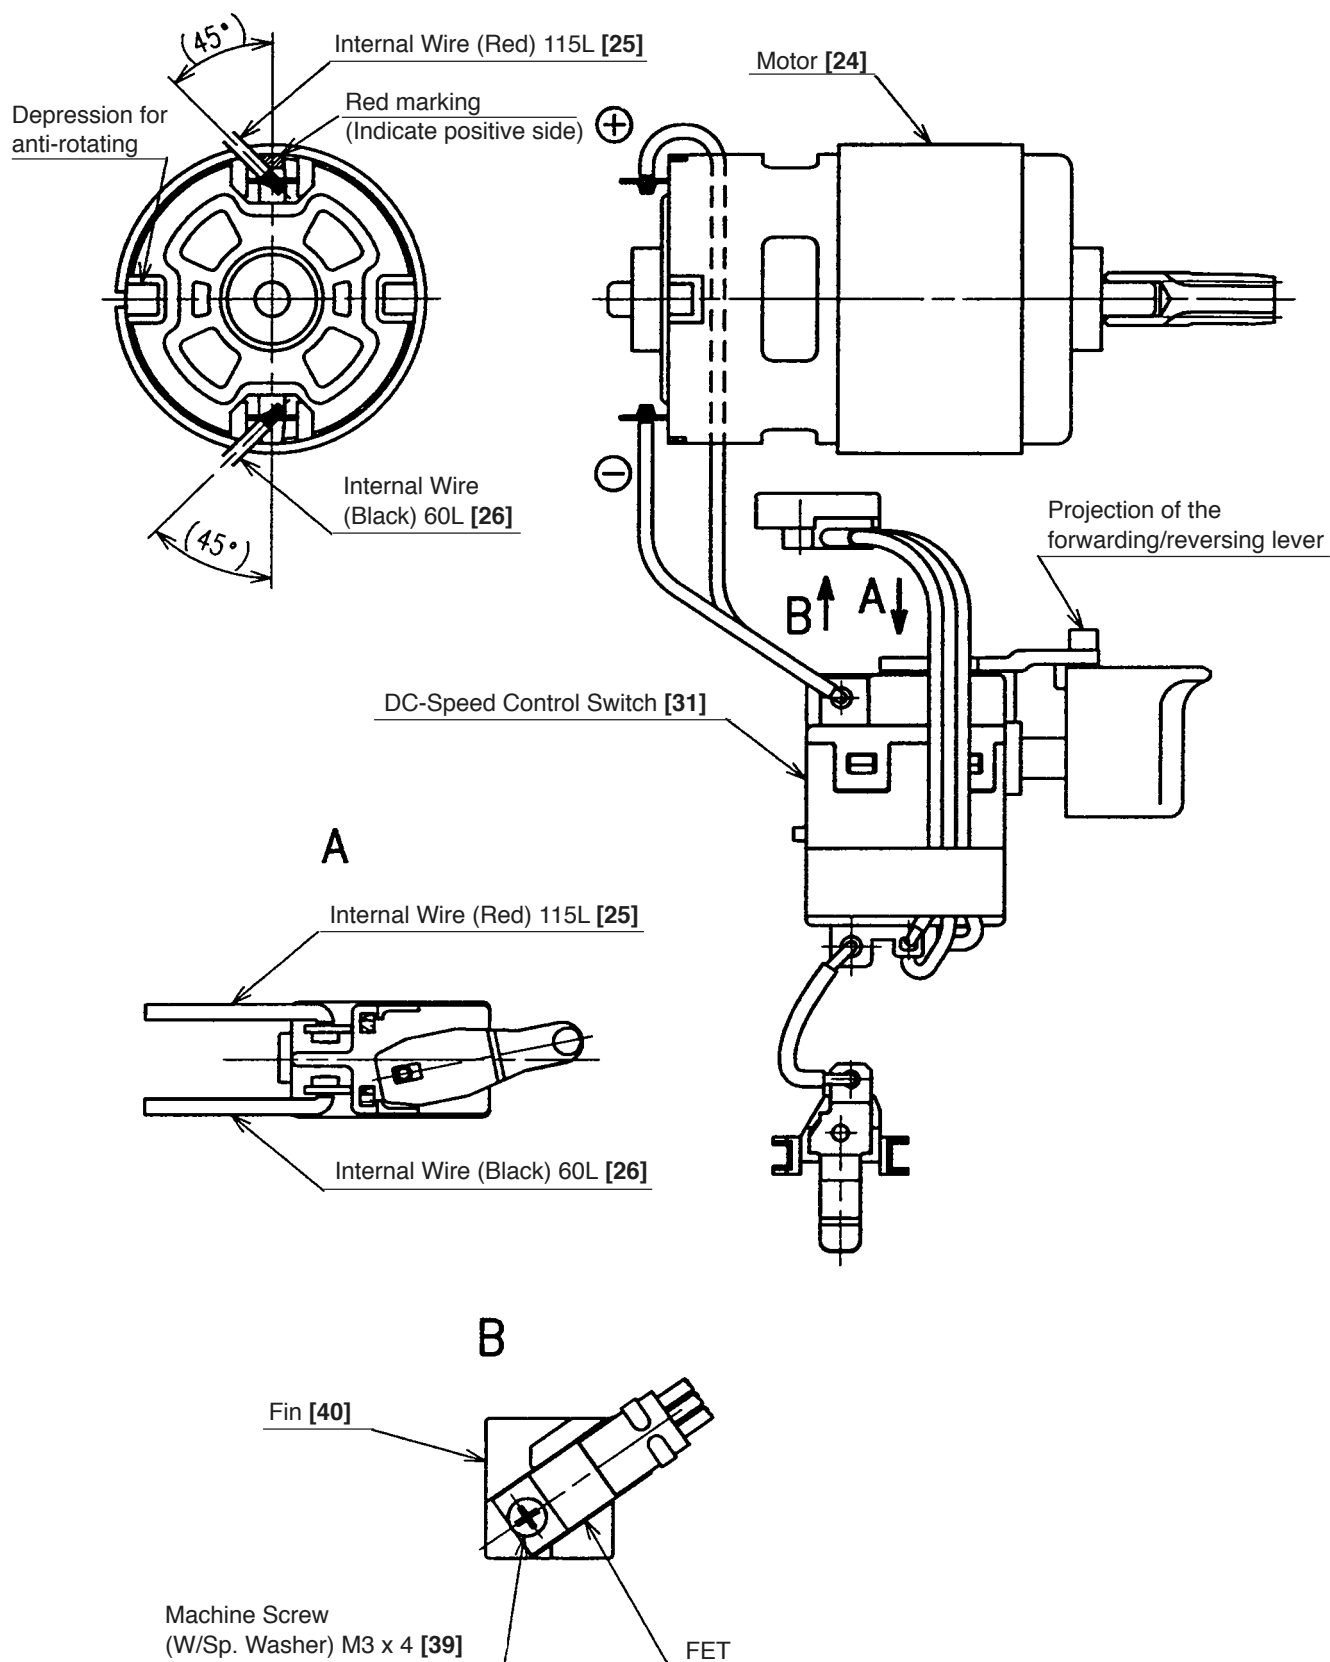

Fig. 5
(1) Reassembly of Housing (A) assembly
- (a) Be sure to follow the wiring diagram (Fig. 5) for proper wiring.
- (c) Mount the Motor [24] into housing (A) so as to pay attention to the position of the Internal Wire (Red) 115L [25] and the depression for preventing motor body from rotating fit in housing (A).